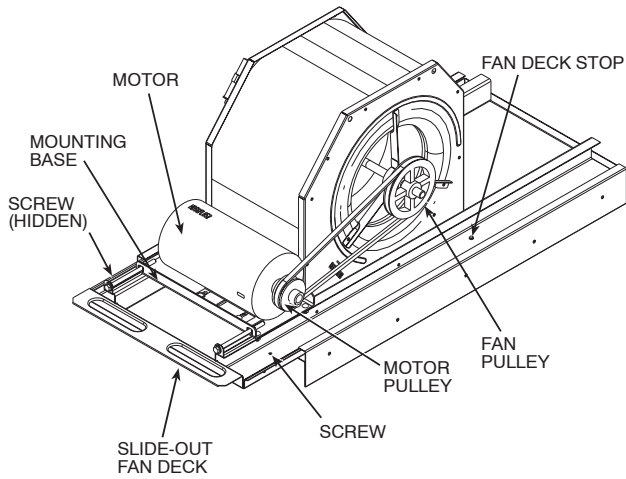

Fig. 35 – Evaporator-Fan Motor Adjustment
3. Remove two no. 10 screws at front of slide-out fan deck. Save screws. (See Fig. 35.)
Evaporator Fan Performance Adjustment (Fig. 35 and 36)